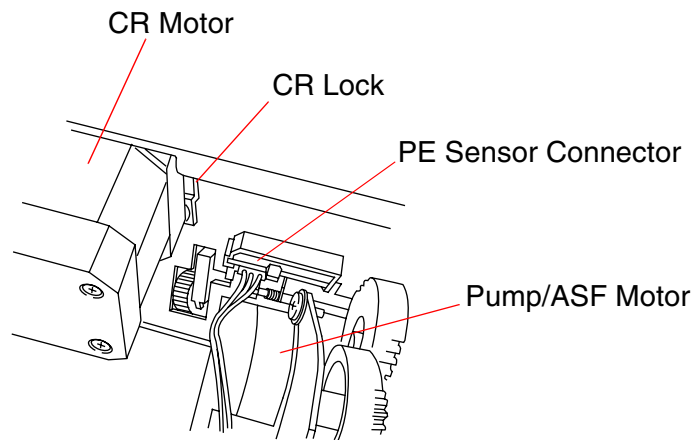

Figure 4-15. Releasing the CR Lock
2. Release the carriage lock at the back of the printer mechanism, then move the carriage unit away from the home position. (See Figure 4-15.)